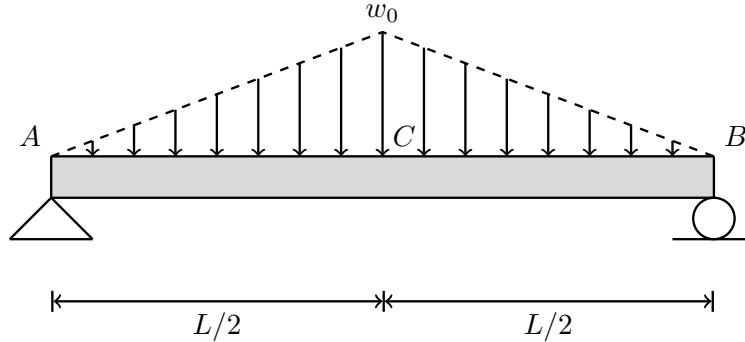

Figure 6
3. Consider a simply supported beam of length  $L$  subjected to applied load as shown in Fig. 6. Calculate the reaction forces, shear force, and bending moment at any point along the beam.
Consider a simply supported beam of length  $L$  subjected to a symmetric triangular load as shown in Fig. 6, where the load intensity is maximum ( $w_0$ ) at the center and zero at both ends. Determine the reaction forces, shear force, and bending moment at any point along the beam.